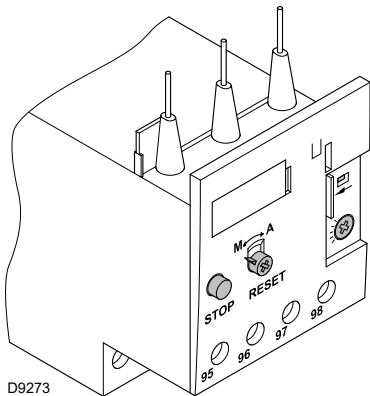

Fig. 25
The electro-mechanical thermal relay (Fig. 25) is used to avoid damage to the motor owing to a strong increase in absorption or the lack of a phase.
- To reset, in the case of an intervention of the thermal relay, press the button **"RESET"** (Fig. 25).
- The button **"STOP"** (Fig. 25) opens the NC (95-96) contact and stops the motor.